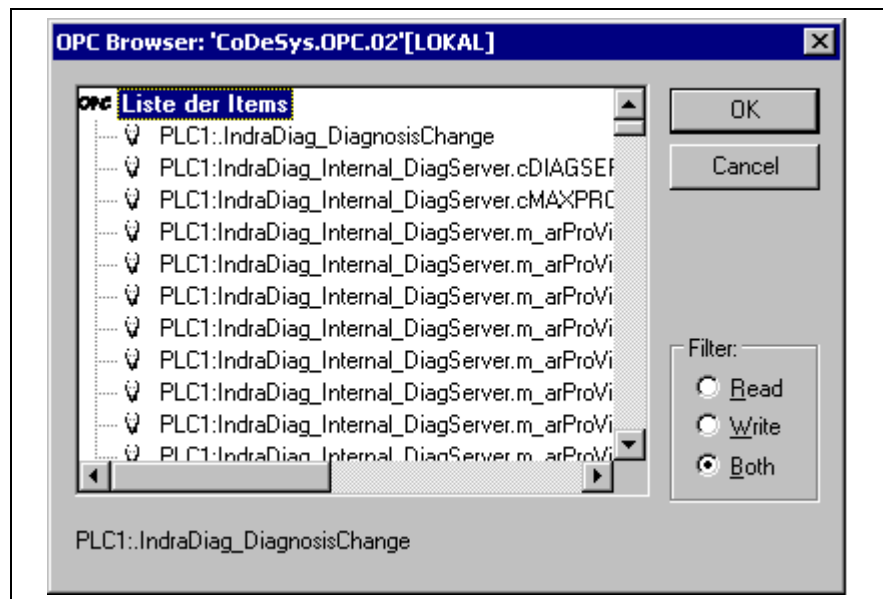

Fig. 3-50: OPC browser for PLC variables
- Fig. 3-50: OPC browser for PLC variables 3-47